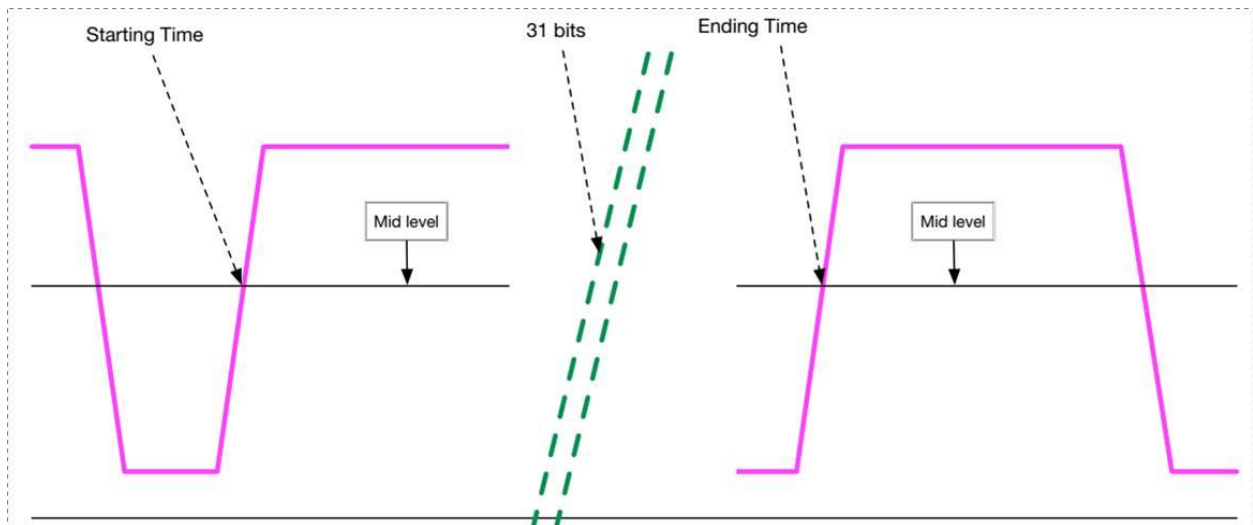

Figure 1: using mid-level to find the reference unit interval
7. The Tester uses the mid-level to find fBitRateRef (refer to Figure 1)
7. Use the mid-level to find 1 UI (refer to Figure 1)